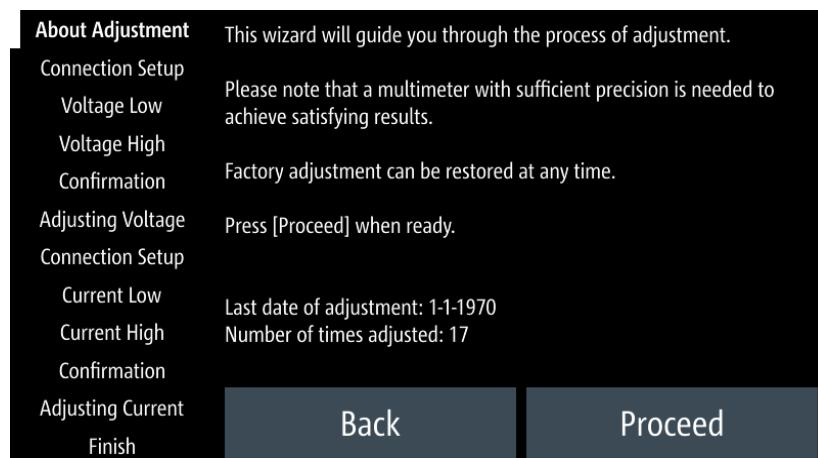

Figure 5-45: Channel adjustment wizard
4. Follow the on-screen instructions displayed in the Figure 5-45.